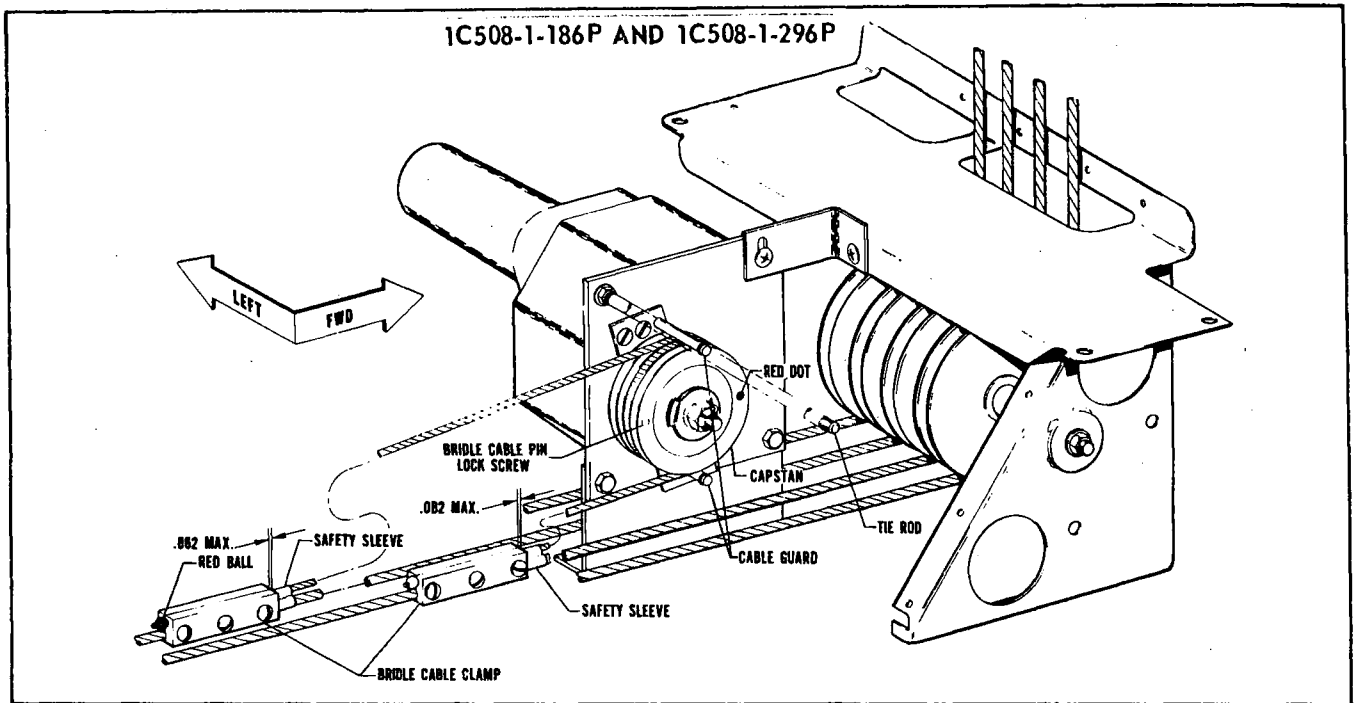

Figure 3-26. Pitch Servo Installation, PA-24-260 and PA-39
3-41. INSTALLATION OF PITCH SERVO. (PA-24-260 and PA-39.) (Refer to Figure 3-26.)
- e. REFER TO FIGURE 3-14 AND CHECK THAT CONTROL CABLE TENSION (Z) IS ADJUSTED TO 18 ± 3 POUNDS PRIOR TO ATTACHING THE BRIDLE CABLE CLAMPS. Ascertain area on cable where clamp attaches is clean, dry and free of all lubricants and anti-corrosive additives. Attach the bridle cable to the stabilator control cable. The bridle cable is drawn to the stabilator cable and attached with clamps at the previously painted locations on the stabilator cable. The end of the bridle cable with the red ball is attached to the outboard (left) control cable. (Refer to Figure 3-26.) (Should the balance cable not be painted, position the control wheel midway between stops (fore and aft) and the bridle cable pin, installed in the capstan, aligned as shown in Figure 3-26.) The red dot on the capstan and the bridle cable set screw should horizontally align. Block the stabilator in the neutral position. Adjust the bridle cable clamps so that the bridle cable tension (Y) and the control cable tension is equal to each other forward (X) of the bridle cable clamps as shown in Figure 3-14. At no time should the bridle cable tension be greater than the control cable tension forward of the bridle cable clamps. Adjusting the bridle cable tension will lower the control cable tension forward of the bridle cable clamps. Torque the bridle cable clamp screws to 15 ± 1 inch-pounds.